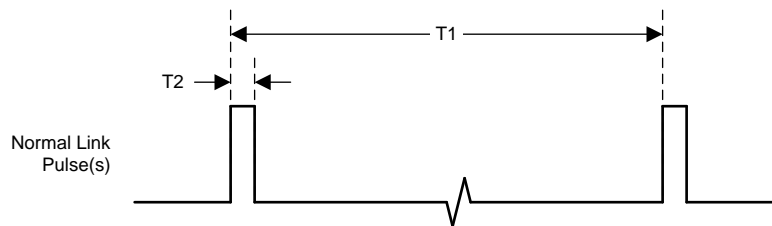

图 12. Normal Link Pulse(s) Timing
(1) Ensured by production test, characterization or design.
(2) See 图 12.